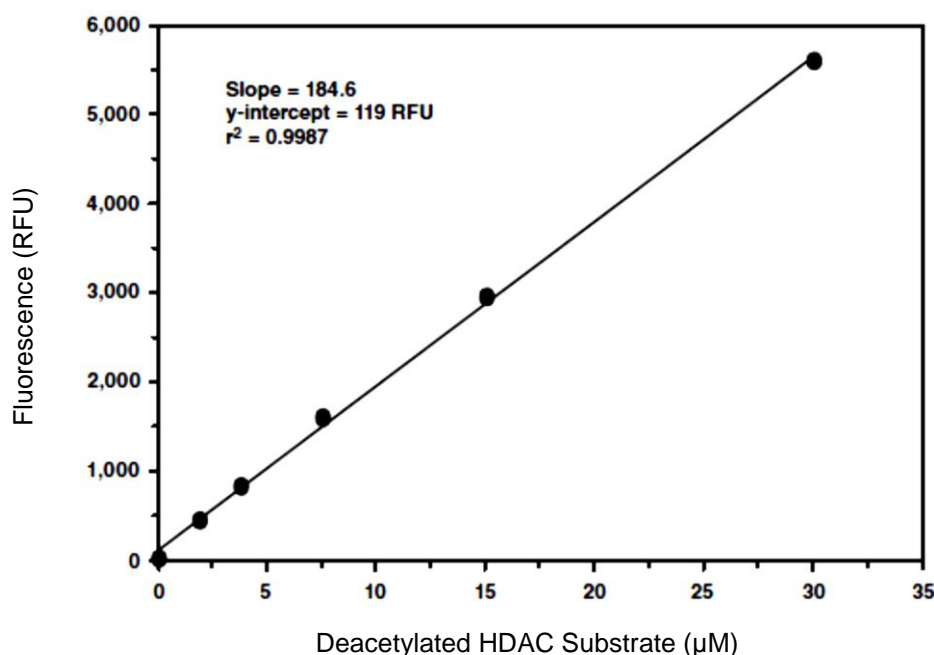

Figure 1. Deacetylated substrate standard curve
2. Plot the corrected fluorescence values (from step 1 above) of each standard as a function of the final concentration of Deacetylated Standards. See Figure 1, for a typical standard curve.